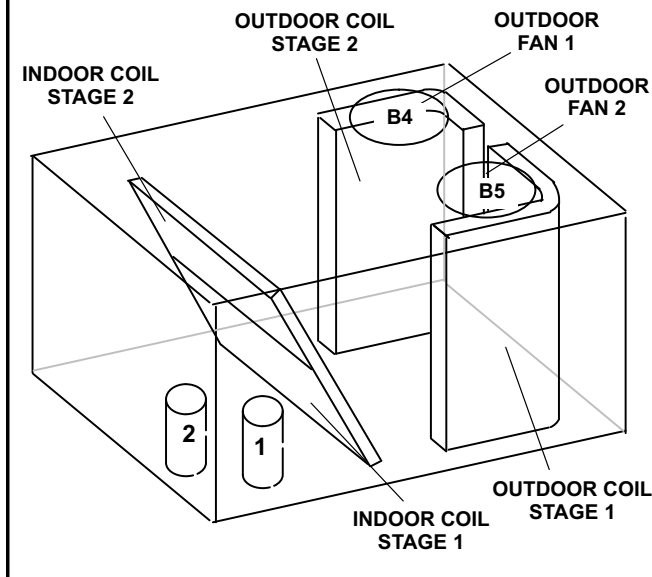

FIGURE 20
- 4- Units contain two refrigerant circuits or systems. See figure 20 or 21.